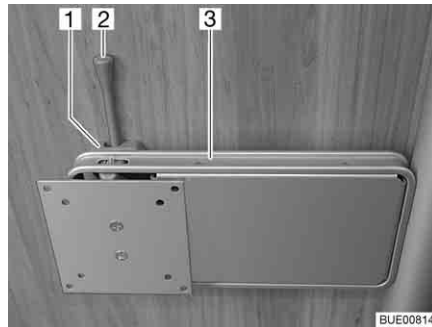

Fig. 46 Holder on the column
- Push the release lever (Fig. 46,2) to the side and turn the holder (Fig. 46,3) with the flat screen to the desired position.
- Turn flat screen back until the holder (Fig. 46,3) engages in the lock (Fig. 46,1).